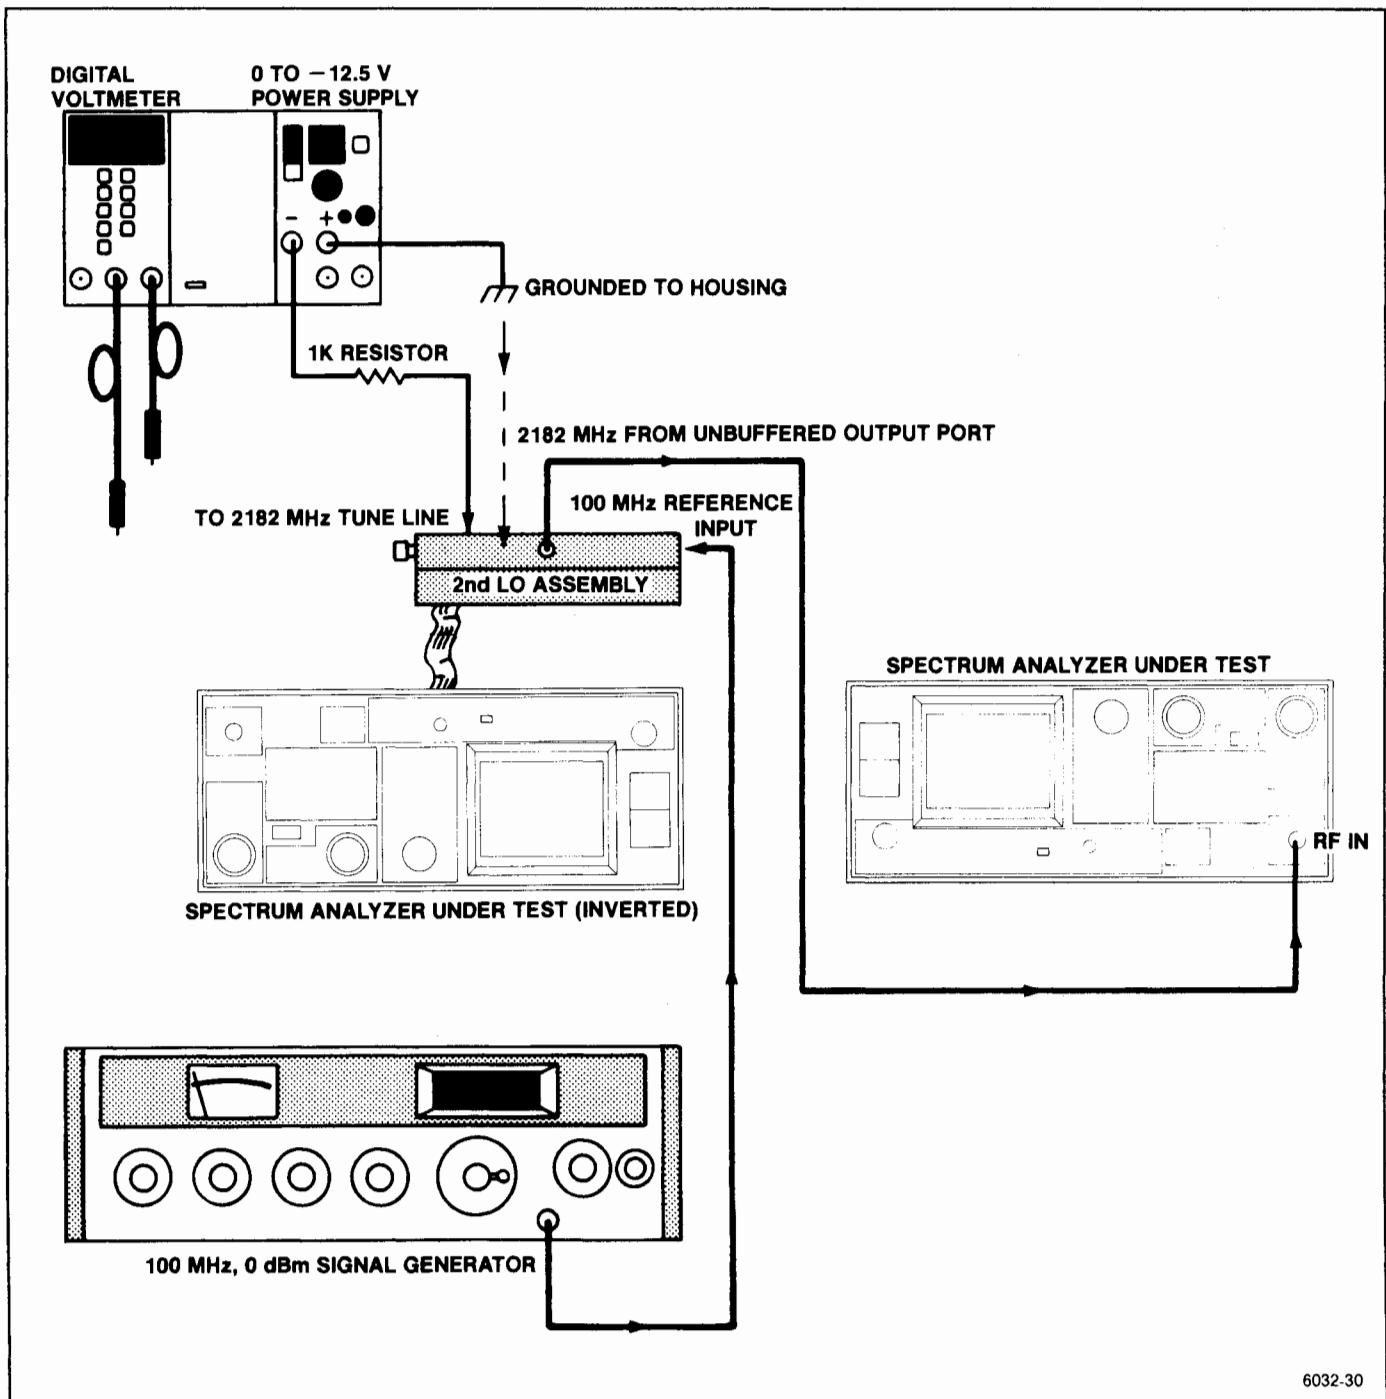

Figure 6-19. 2182 MHz Phase Locked 2nd LO adjustment setup.
Test equipment setup is shown in Figure 6-19. Turn the POWER off. Remove the cabinet and place the Spectrum Analyzer upside down so the RF deck is exposed. Use a 5/16 inch wrench to loosen and remove the two semi-rigid cable connections to the assembly. Remove the flexible coaxial cable connection to the 100 MHz input.
a. Connect the test equipment as shown in Figure 6-19.